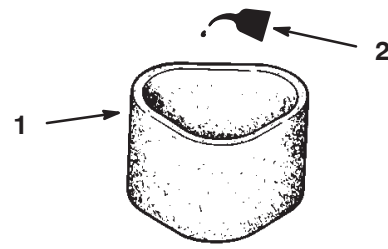

Figure 17
3. Put one or two ounces of oil on the element (Figure 17). Squeeze the element to distribute the oil.